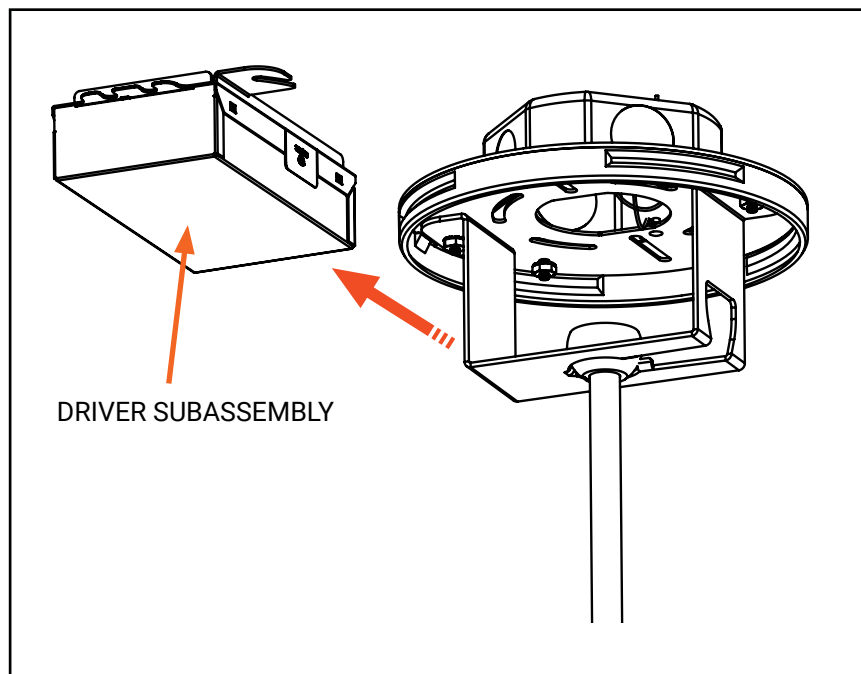

Figure 5
5. Rotate Driver Subassembly CCW and securely remove. (Figure 5)